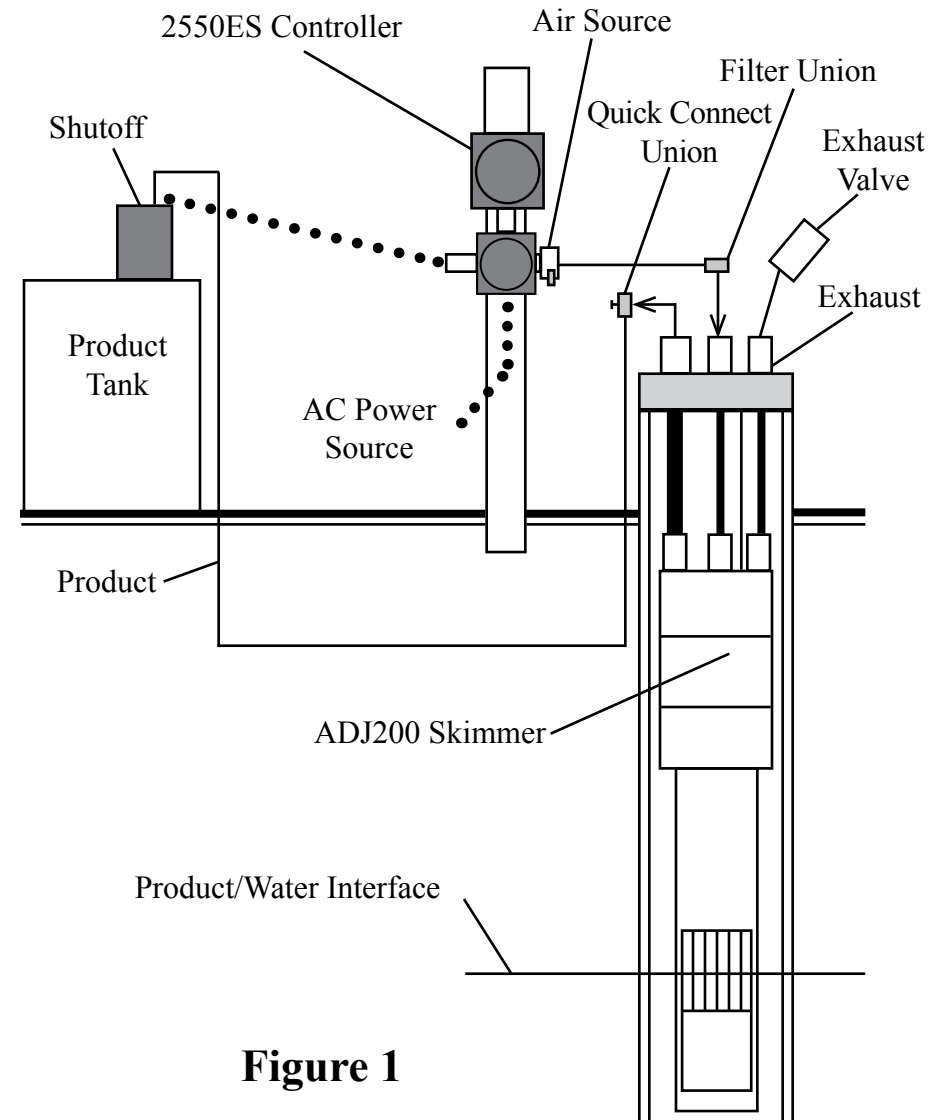
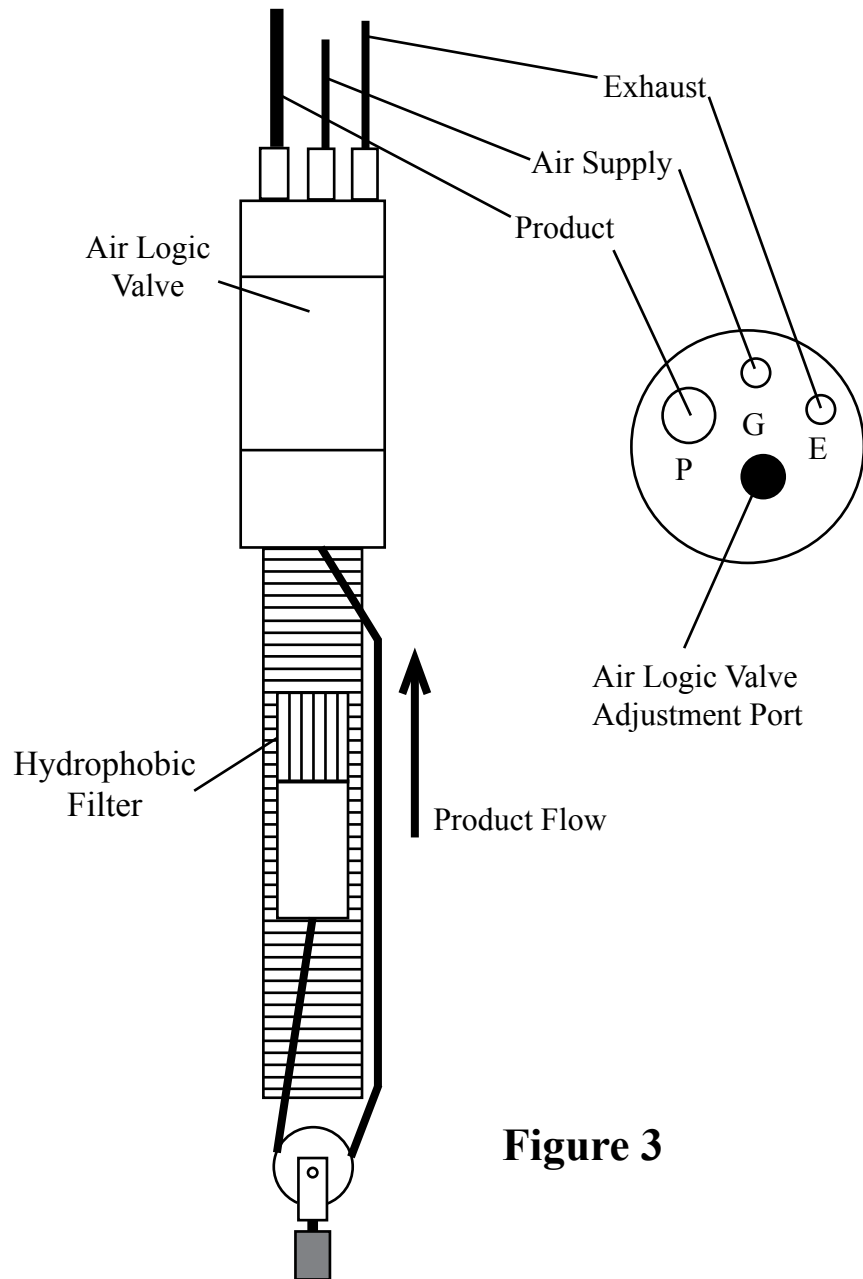

Figure 1
Figure 3
The system (Figures 1 and 2) relates to floating hydrocarbon recovery in wells two inches in diameter and larger. This system includes: an intrinsically safe ADJ200 pneumatic Smart Skimmer (Figure 3) which removes only product to a sheen up to 200 feet deep; and a two function electronic Class I Controller Model 2550ES for hazardous locations which operates the skimmer intermittently, and has a high level tank shutoff.
STEP 7. Position the skimmer and well cap on the ground near the well. Cut a length of 1/4" OD air supply tubing to cover the distance from the top of the well down to water/product interface, plus 5 feet. **NOTE:** If the skimmer is over 70 feet deep, use 3/8" OD air supply tubing in stead of 1/4" OD tubing. Slide enough tubing through the well cap and attach the end of the tubing to the top of the skimmer tube fitting labeled "G" (Figure 3). If the product thickness is greater than 1 foot, position the skimmer's "Black Reference Line" on skimmer well screen 1 foot below top of product. If the product thickness is less than 1 foot, position the skimmer's "Black Reference Line" on skimmer well screen at the water/product interface.
STEP 8. Cut a length of 5/16" OD product tubing same length as the air supply line. Install 5/16" OD product tubing through the well cap tube fitting labeled "P" (Figure 3). Slide enough tubing through the well cap and attach the end of the tubing to the top of the skimmer tube fitting labeled "P". **CAUTION:** Do not kink the tubing.